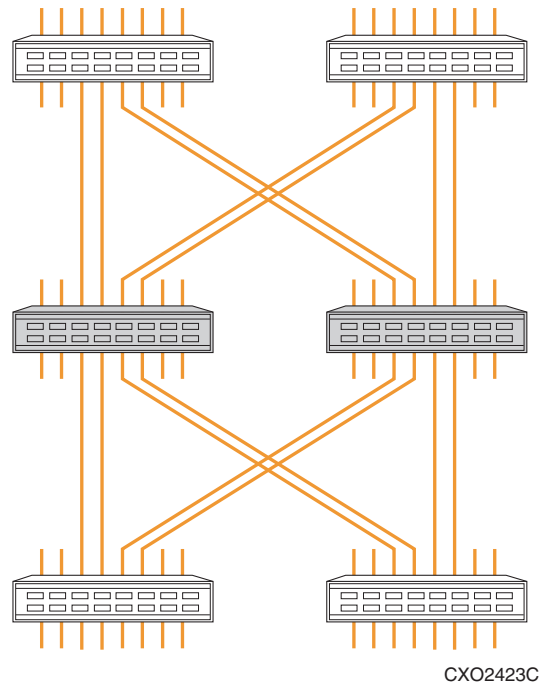
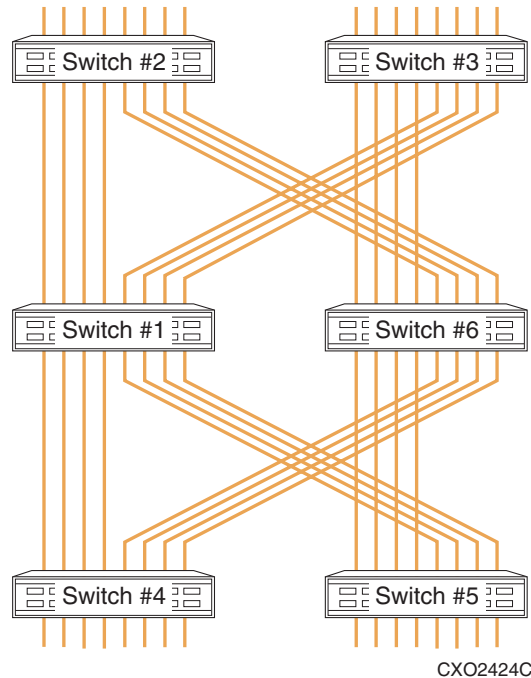

Figure 11: 64-Port Skinny Tree
Figure 12: 32-Port Fat Tree
1. Skinny trees require fewer switches than fat trees to supply the same number of user ports. Figure 11 shows how six 16-port switches in a skinny tree configuration yield 64 user ports, while the same switches wired in a fat tree as shown in Figure 12 yield only 32 user ports.
The configuration shown in Figure 11 has six 16-port switches. Two are backbone switches (shaded) and four are edge switches. The edge switches each have 12 user ports available to connect to servers or storage. With the 48 ports on the edge switches and with the 16 available ports on the backbone switches the total number of user ports is 64.
The configuration shown in Figure 12 also has six 16-port switches, with two backbone switches and four edge switches. The edge switches each have eight user ports available to connect to servers or storage. No ports are available on the backbone switches for user ports, so the total number of user ports is 32.
For example, a skinny tree using the design shown in Figure 11, but using 64-port Directors, meets the ISL port count and hop count requirements for this family of products while providing 256 user ports.